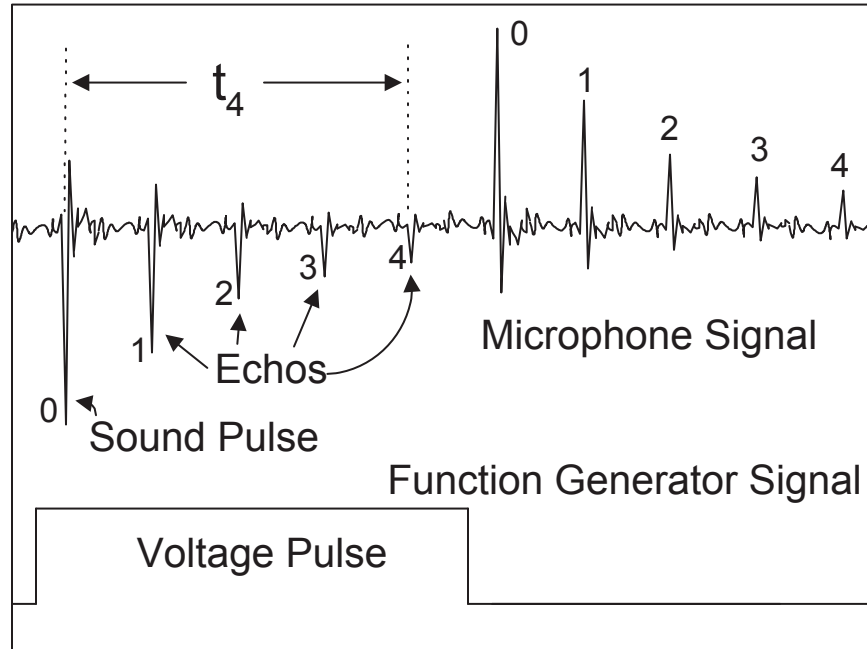

Figure 2.3: Sound tube signals on oscilloscope.
3. Adjust the vertical and horizontal scales of the oscilloscope to obtain a display similar to Fig. 2.3. The square wave represents a voltage pulse applied to the transducer — you may be able to hear the clicking sound it produces. The microphone output should show a decaying series of sharp spikes — a pulse followed by a series of echoes within the tube — along with other noise. The time between these spikes is the time needed to travel twice the length of the tube. To help you be sure you are seeing the correct spikes, try adjusting the square-wave frequency — the positions of these spikes won't change, because they depend on the speed of sound, not the frequency of the clicks.
5. Drag the time cursors to determine the time delay between the sound pulse and a later echo; for example,  $t_4$  as illustrated in Fig. 2.3, is the time of travel for four round trips of the sound made by the speaker.
6. Calculate the mean time for a pulse to travel the length of the tube; in Fig. 2.3 the mean time  $t$  is  $t_4/8$  because the pulse traveled the tube length eight times (four round trips). The fractional uncertainty ( $\frac{\delta t}{t}$ ) should be about .03 for this measurement.